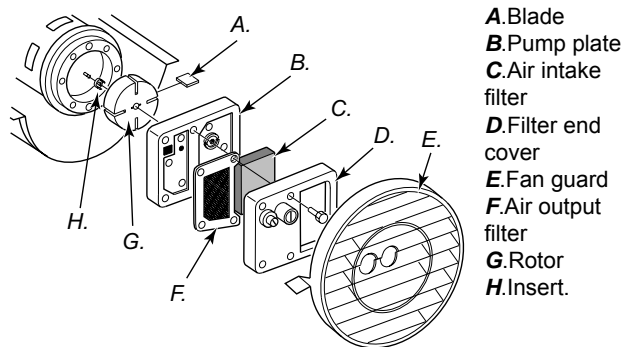

Figure 26 – Rotor location, 100.000 and 150.000 Btu/Hr.
14. Place fine grade sandpaper (600 grit) on flat surface. Sand rotor lightly in "figure 8" motion four times (see Figure 26)